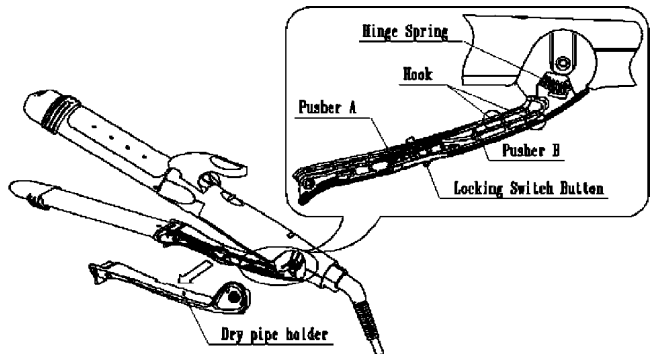

Figure 4
4. Take off Dry pipe holder at 2 Hooks and be careful not to make Hinge spring, Pusher A, Pusher B and locking switch button disappear as shown in Figure 4.